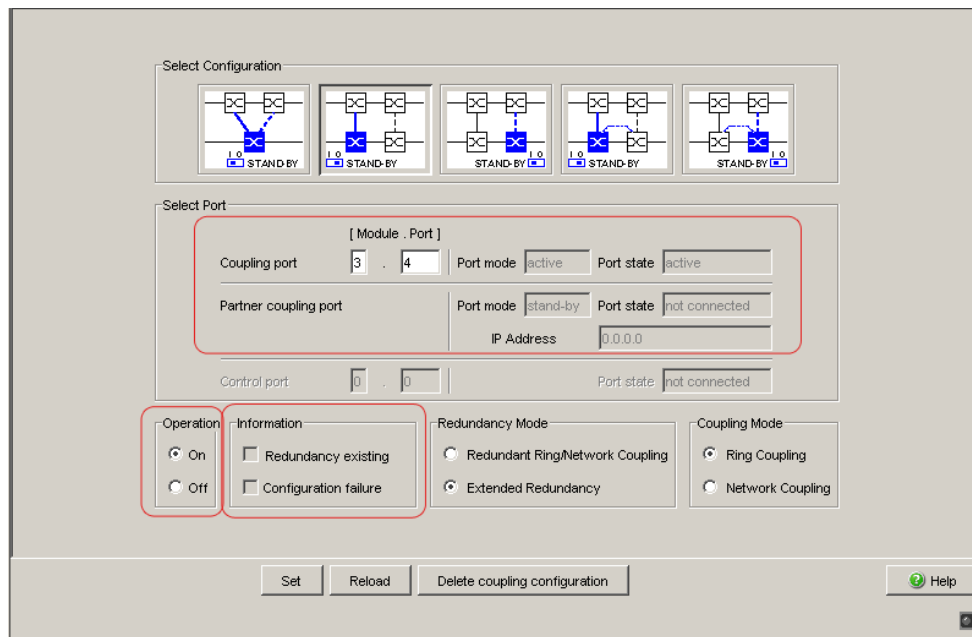

Figure 31: Selecting the port and enabling/disabling operation
- ☐ Activate the function in the “Operation” frame (see fig. 31).
The displays in the “Select port” frame mean (see fig. 31):
- ☐ Select the coupling port (see fig. 31), (see table 9).
The displays in the “Information” frame mean (see fig. 31):